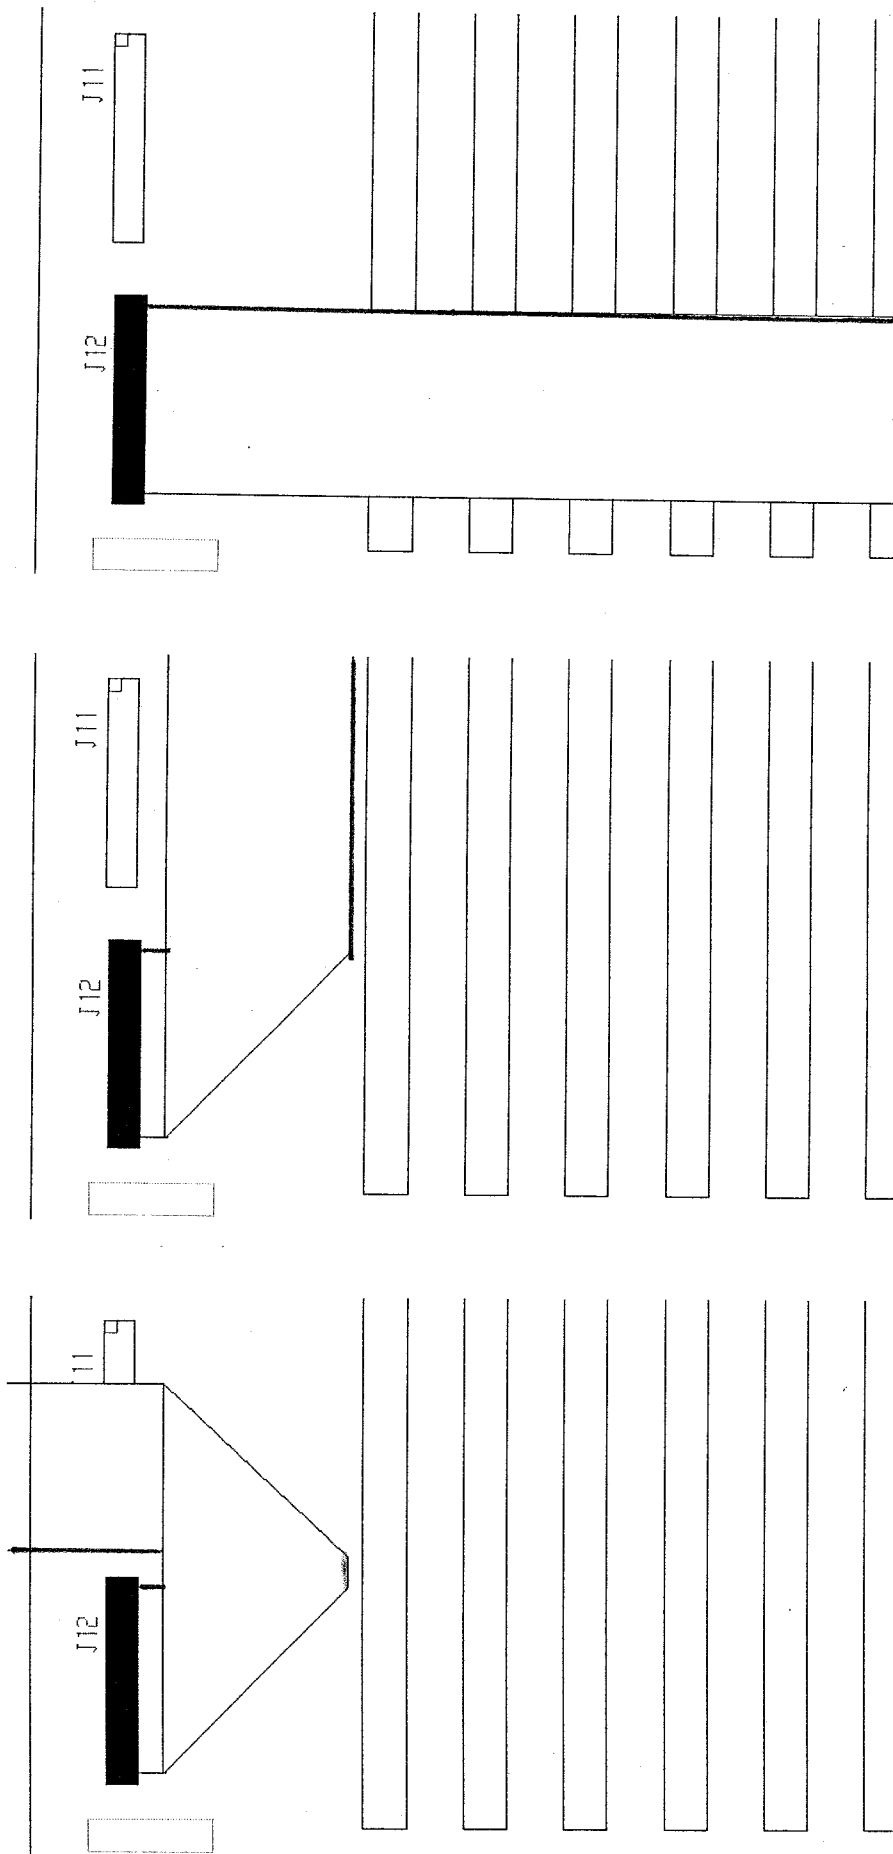
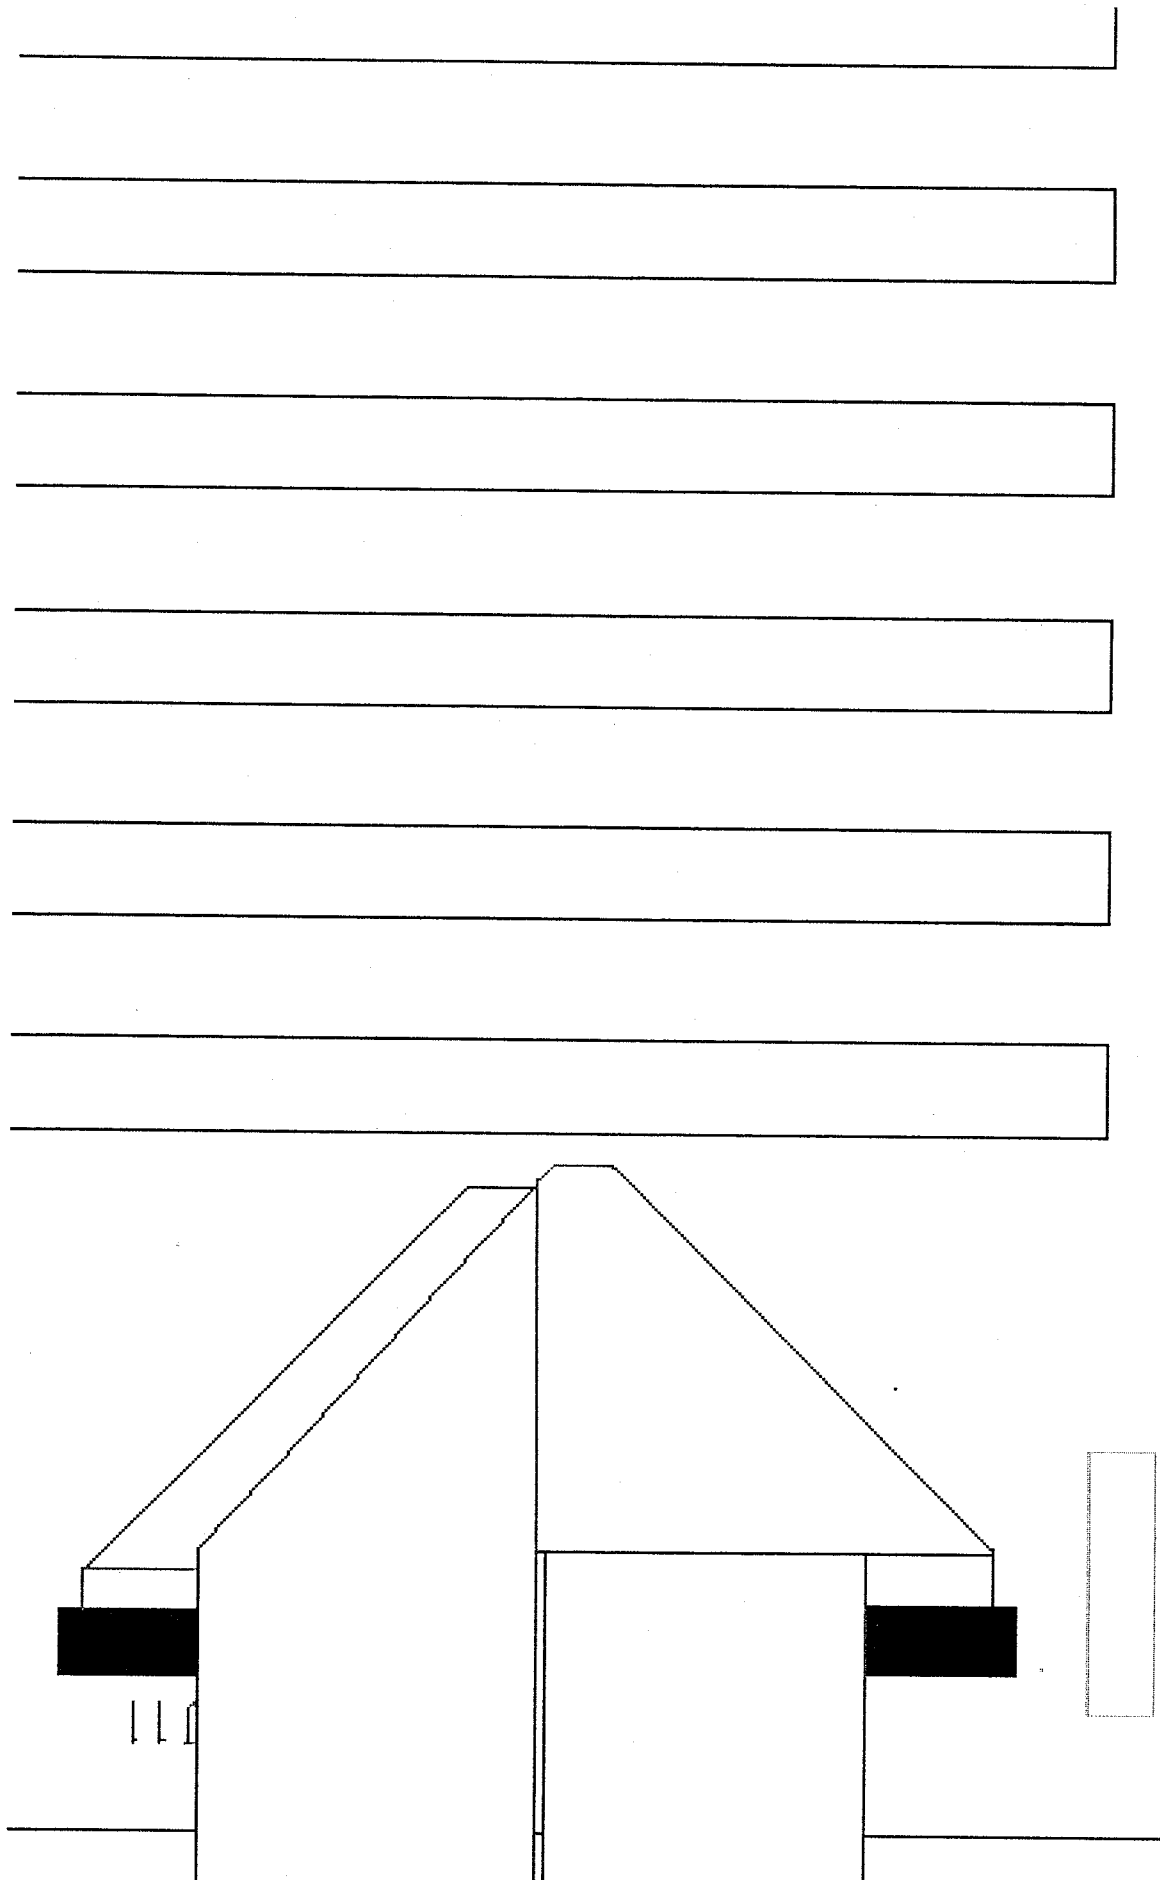

Figure 10, J12 Cable Folds for the Amiga 1000
Figure 11, Amiga 1000 Connection of Cables to Motherboard Connectors J11 and J12
**7-2) Connect the J12 cable to the Motherboard.** Take the other cable with the red stripe facing towards the rear of the case, connectors facing down, and plug the left end of the cable into connector J12 on the Motherboard. Make a 90 degree fold in the cable near J12 Motherboard connector so that the unconnected end of the cable is brought toward the rear of the case. Now make another 90 degree fold in the cable so that the loose connector is to the left of the board. (See Figure 10, J12 Cable Folds for the Amiga 1000.) At this point, the cables should be side by side to the left of the case and the red stripes are now towards the front of the case. If you have done this correctly, the cables will be crossed neatly, so that the unconnected end of J11 cable is over the J12 Motherboard connector, while the J12 cable is over the J11 Motherboard connector. (See Figure 11, Amiga 1000 Connection of Cables to Motherboard Connectors J11 and J12.)